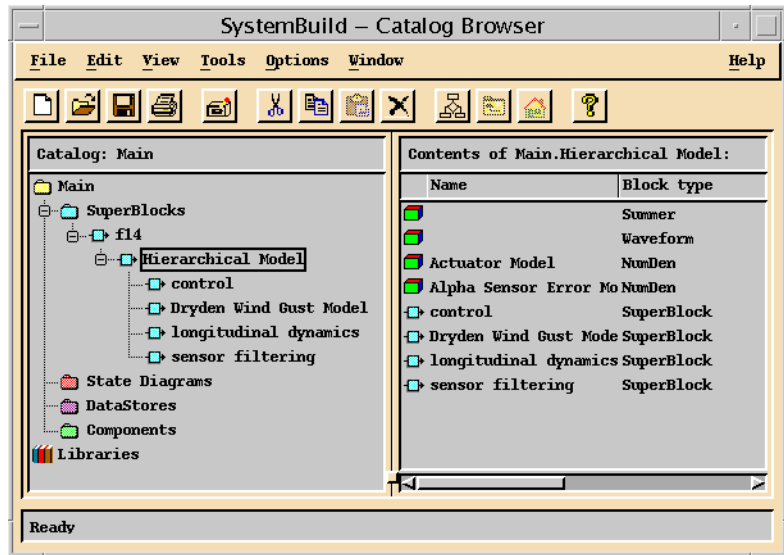

Figure 4-14. Expanded Hierarchy for f14 Model
- Continue expanding each level of the model (see Figure 4-14).